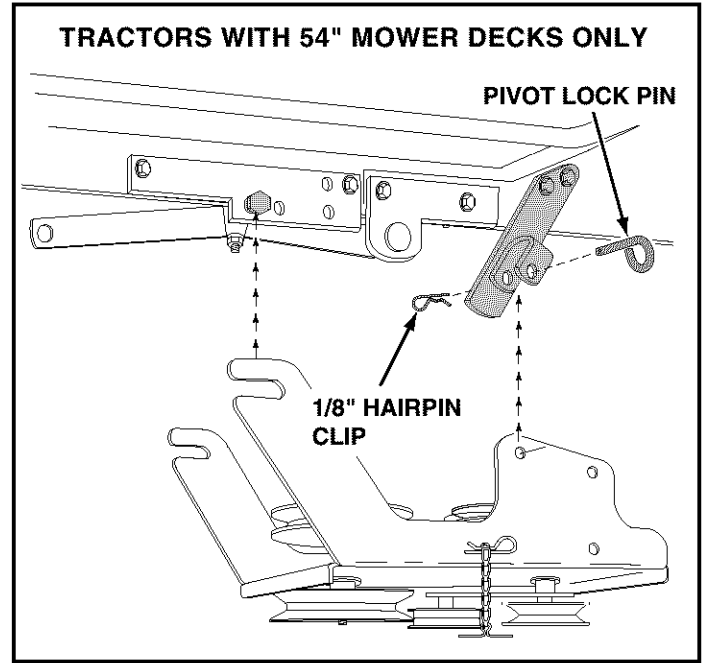

FIGURE 13
- Attach the rear of the clutch/idler assembly to the tractor frame by sliding the notched arms of the assembly onto the shoulder bolts assembled to the frame brackets. Lift the front of the assembly, positioning the upper idler pulley so that it clears the engine pulley. Attach the front of the assembly to the hanger brackets using two pivot lock pins and 1/8" hairpin clips. See figure 13.